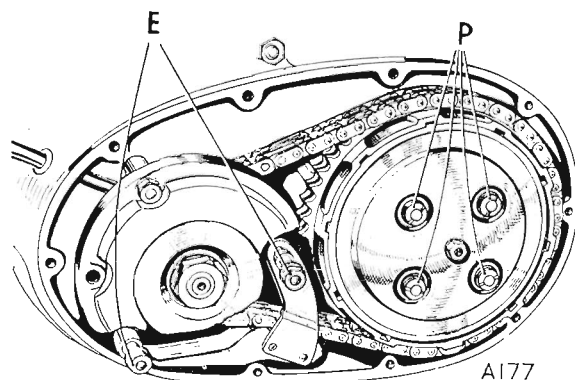

Fig. B16. Chain and pressure plate adjustment
Remove the four spring retaining nuts (P) Fig. B16, and withdraw the springs with their cups. The pressure plate and the remaining clutch plates can then be taken out. If these are the only items requiring attention, the clutch need not be dismantled further.
Screw on the four spring nuts (P) Fig. B16, with a slotted screwdriver until the first coil of each spring is just proud of its cup.
Replace the primary chain tensioner on to the lower stator studs (E), Fig. B16, and fit the small spacer on to the rear stud.